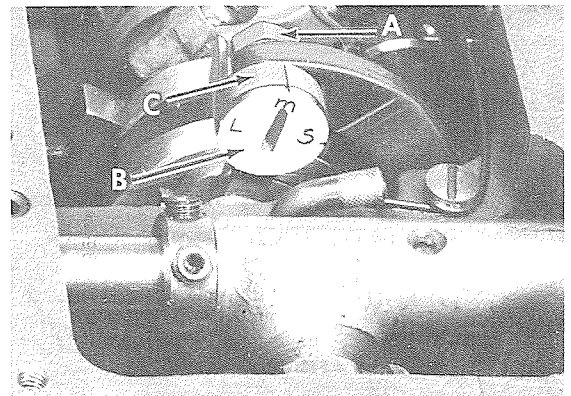

Fig. 14
and remove bottom cover. Loosen nut (A, Fig. 14) and rotate eccentric stud (B) to align the letter "S", "M" or "L" which represent small, medium or large looper avoid, respectively, with timing mark in looper avoid link (C) as required. To ensure a uniform setting, position the needle head at the bottom of its stroke before aligning the letter on the eccentric stud with respect to the timing mark in the looper avoid link. Recommended settings for machines using needle sizes: